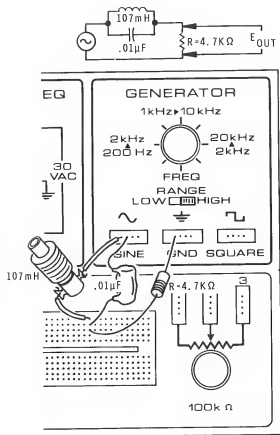
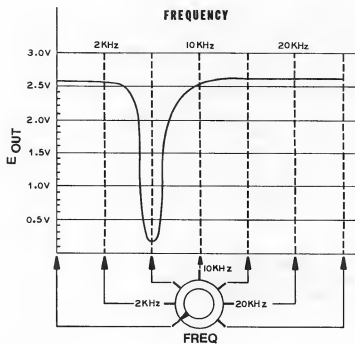

Figure 2-85
Figure 2-95
- Disconnect the previous circuit and construct the circuit shown in Figure 2-85.
Plot the response curve for the circuit shown in Figure 2-85.
In step 10 you assembled the circuit shown in Figure 2-85. Next you plotted a response curve for the circuit. A typical curve is shown in Figure 2-95. The general shape of your curve should agree with this curve. The circuit arrangement and the response curve tell us that this is a band-stop filter.
shown in Figure 2-85.